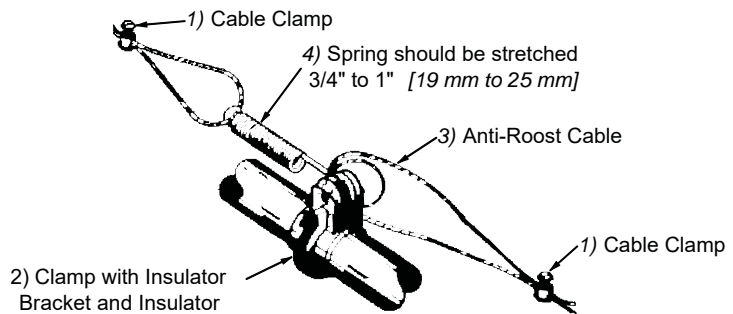

Figure 55. Anti-Roost Mid-line Connection
4. Attach a spring in the center groove at the second anti-roost bracket and cut the cable at this point, see **Figure 55**.
5. Thread the ends of the cable through the end of the spring. Pull the cable tight so there is 3/4 to 1" [20 to 25 mm] of stretch in the spring. Clamp the cable to form a loop and cut off any excess, see **Figure 55**.
6. Attach the cable to the insulator. For best results, make a double loop around the anti-roost insulator in the center groove of the insulator and fasten with a 1/16" cable clamp, see **Figure 55**.